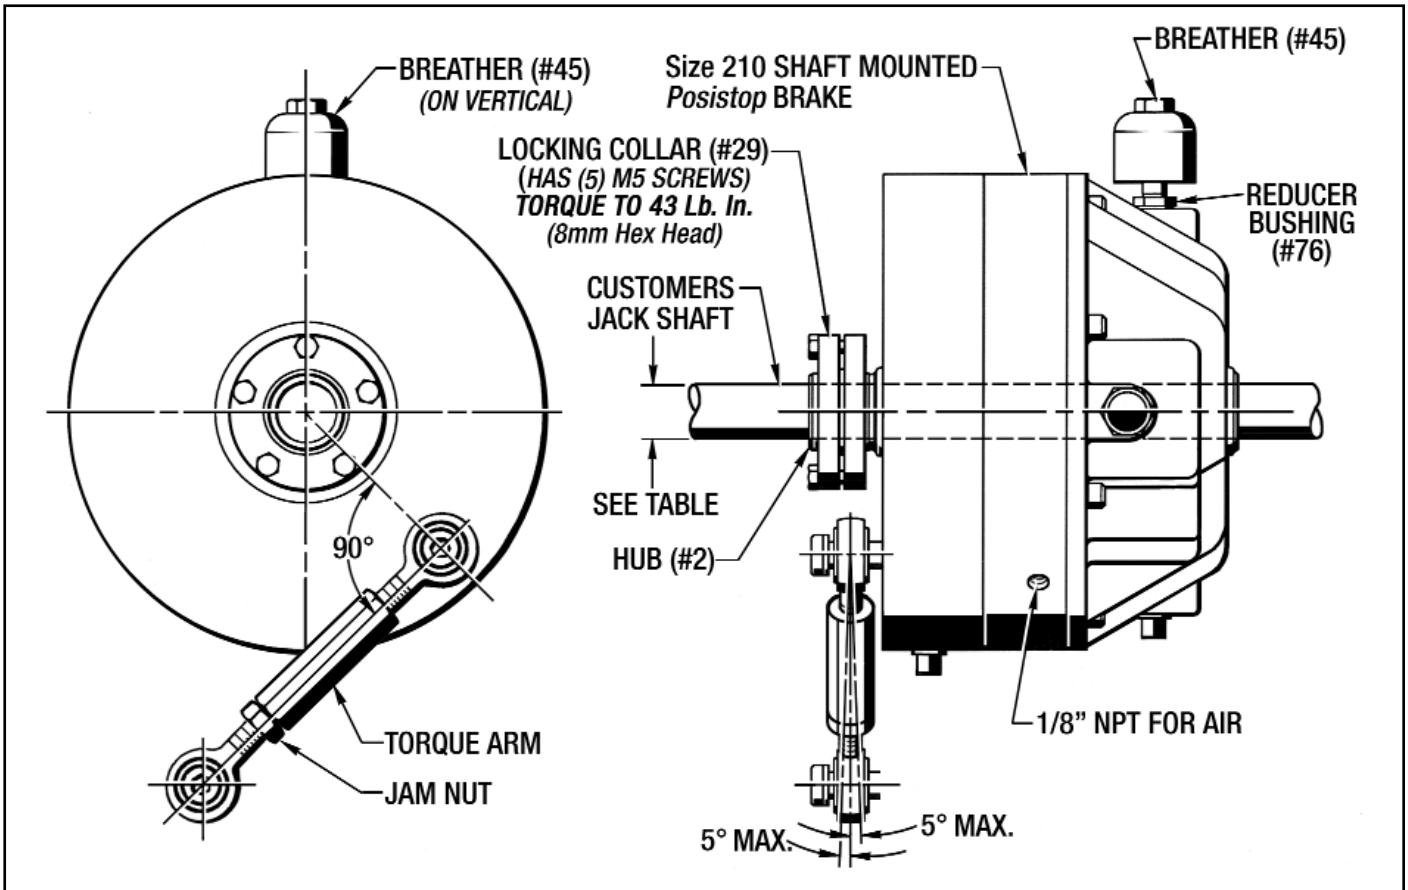

Figure 2 - Size 210 Shaft Mounted Brake Installation
(See Figure 2)
7. Attach the Torque Arm as shown in Figure 2. Adjust the turnbuckle so the Air Breather (#45) is on the vertical center line.
Please Note: The maximum allowable angular misalignment is $\pm 5^\circ$ as shown in Figure 2.